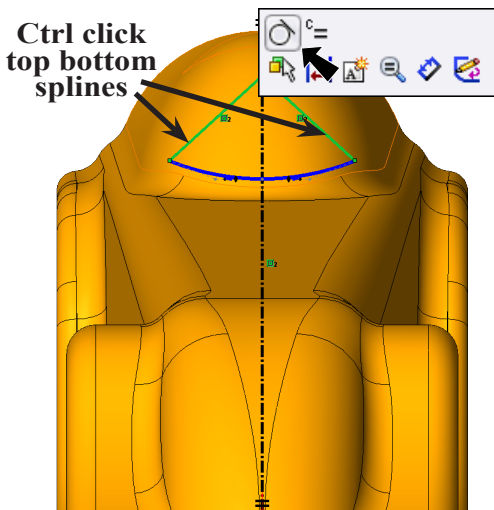

Fig. 144
Step 13. **Ctrl click** both **top** splines to select both splines, release Ctrl key and click **Make Tangent**  on the Content menu, **Fig. 144**.